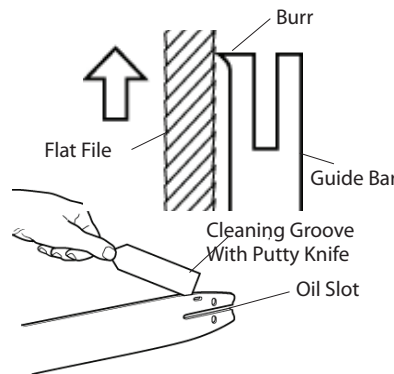

Figure 31 - Guide Bar Maintenance
- Remove sawdust from guide bar groove periodically. Use putty knife or wire (see Figure 31).